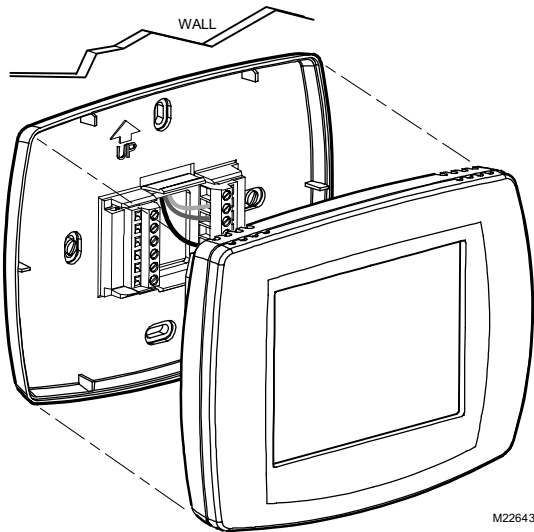

Fig. 12. Mounting comfort control on wallplate.
2. Push the comfort control straight onto the wallplate. See Fig. 12.